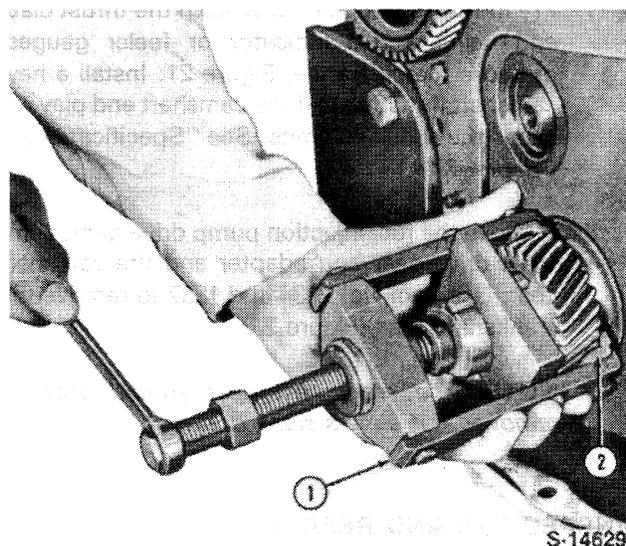

Figure 22
8. Remove the fuel injection pump drive gear, camshaft drive gear and adapter and the camshaft gear. Use Tool No. 2134 and 1237 to remove the crankshaft gear, Figure 22.